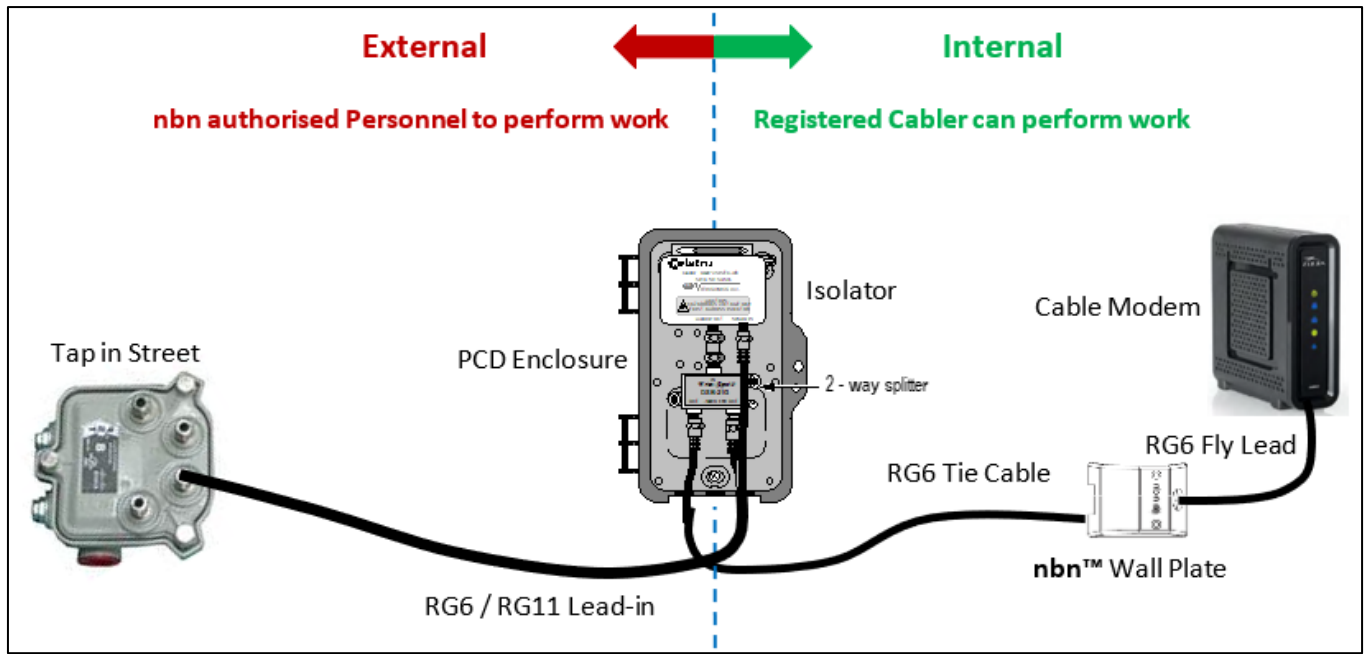
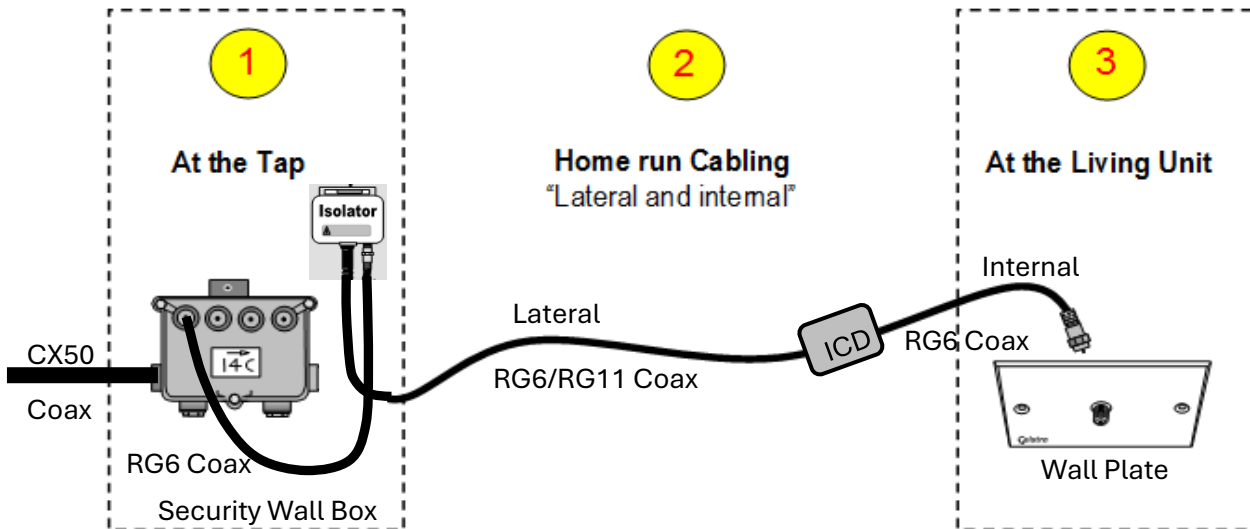

Figure 63. nbn Coaxial Authorised Work Boundary – SDU
Figure 64. MDU equipment and cabling (coax)
- do coaxial installation, modification and removal within premises for renovation, demolition or relocation of the building as per authorised work boundary nominated as illustrated in Figure 63.
Subject to the terms and conditions set out herein, nbn authorises a Registered Cabler to complete coaxial installation, modification and removal within premises for renovation, demolition or relocation of the building as per authorised work boundary nominated as illustrated in Figure 63. and Figure 64. perform MDU installation from the ICD to the wall plate inside the premises (see Table 6 for the maximum home run cable lengths).
The high-level diagram below (See Figure 63) shows the authorised work boundary in an SDU served by the HFC network. A Registered Cabler fulfilling the criteria specified in this document is authorised to perform any such work during renovation, demolition or relocation of the building.